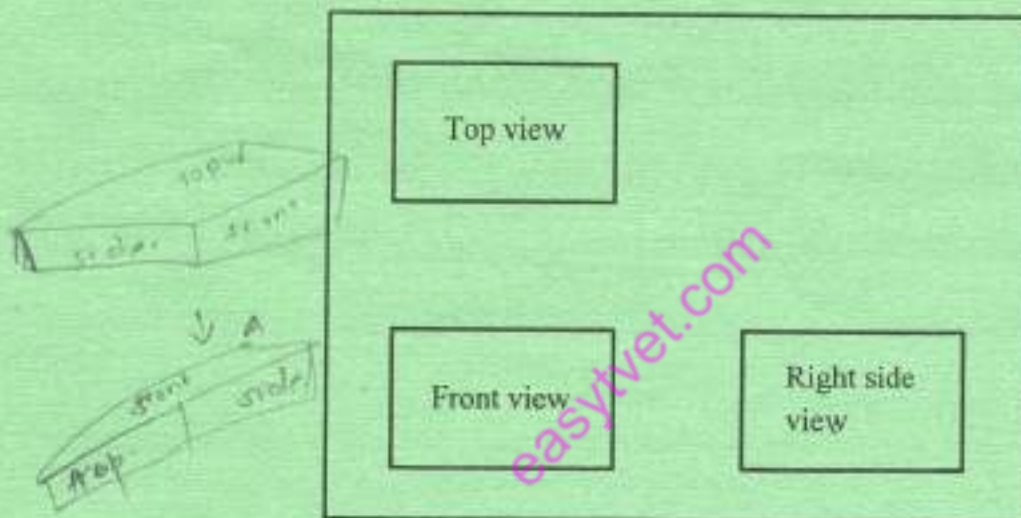

Fig. 3
10. Complete the orthographic projection drawing of a cube in Figure 3.